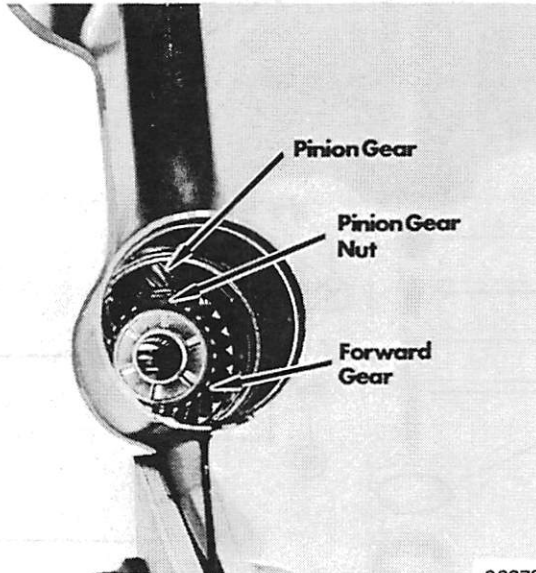

Figure 1. Removing Drive Shaft Pinion Gear
2. Remove  $\frac{3}{4}$ " nut from drive shaft pinion gear with a thin  $\frac{3}{4}$ " box-end wrench (Figure 1) (standard thread).